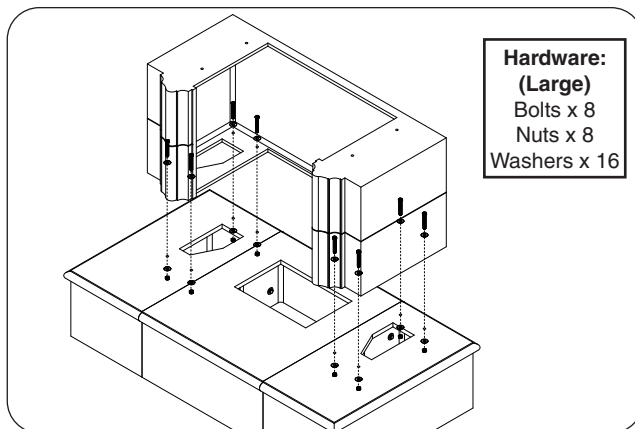

Fig. 23-1 Assemble base body
1. Place the base body piece on top of the hearth. Carefully align the pilot holes, insert the hardware (large hardware kits) in the order shown, and only hand tighten at this stage. See Fig. 23-1.